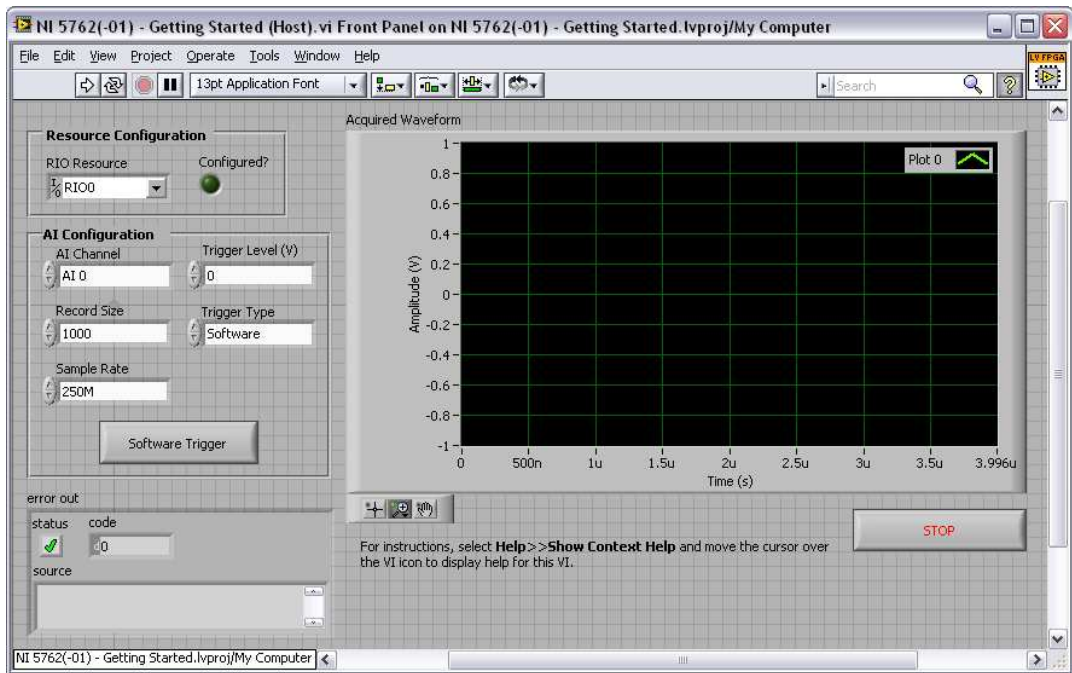

Figure 5. NI 5762 - Getting Started (Host) VI Front Panel
9. Set the **Trigger Level (V)**, **Record Size**, **Sample Rate**, and **Range (V)** controls to the desired value.
12. Click the **Software Trigger** button if you selected **Software Trigger** in the **Trigger Type** control. The VI acquires data and displays the captured waveform on the **Acquired Waveform** graph as shown in Figure 5.